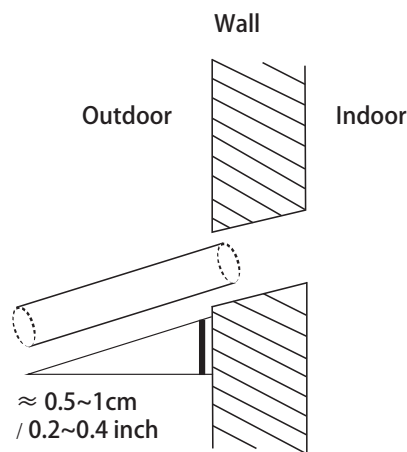

Fig. 10.2
6. Using a 65-mm (2.5") core drill, drill a hole in the wall. Make sure that the hole is drilled at a slight downward angle, so that the outdoor end of the hole is lower than the indoor end by about 1cm (0.4"). This will ensure proper water drainage (See Fig. 10.2). Place the protective wall cuff in the hole. This protects the edges of the hole and will help seal it when you finish the installation process.